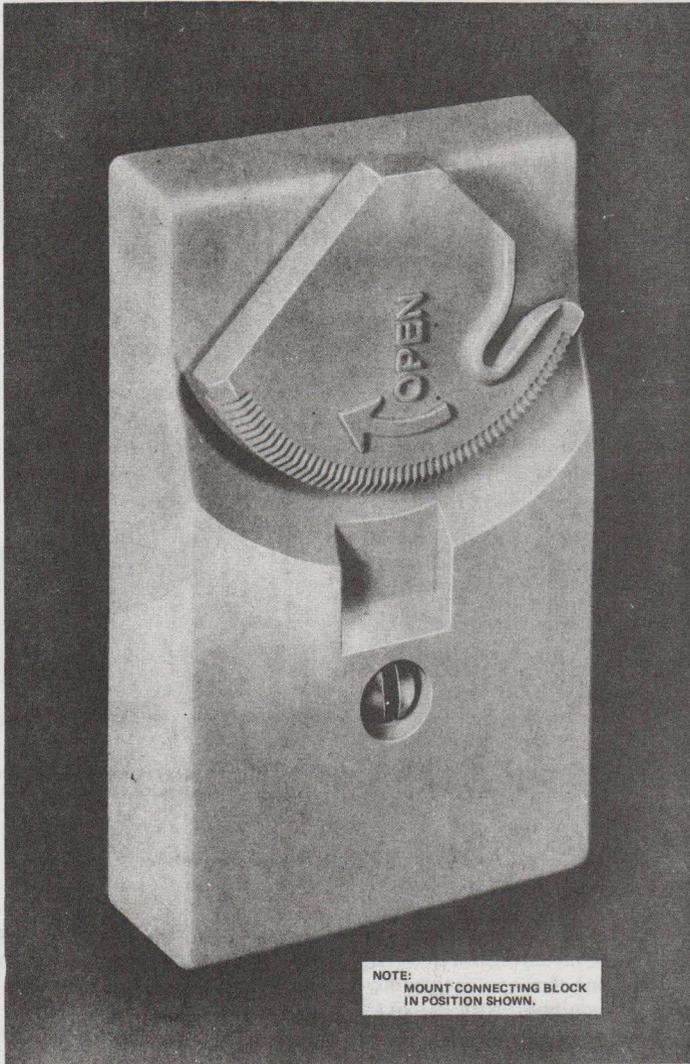

Fig. 5—625S or 625T Connecting Block
- Block, Connecting, 625S (Fig. 5)
- Block, Connecting, 625T (Fig. 5)
2.08 The **625S** connecting block (Fig. 5) is similar to the 625A except it has a customer-operable spring-loaded cover which protects the interior telephone line contact springs from contamination. It is intended for use in areas subject to high humidity and condensation or locations exposed to dripping, washing, or foreign matter. It contains a 42A block.
2.09 The **625T** connecting block (Fig. 5) is the same as the 625S except it does not contain a 42A connecting block. It is used to convert existing 42A or 625-type connecting blocks where extra protection is needed.
3.07 625S Connecting Block: Mount the 42A connecting block on the wall (preferred) or baseboard so that the 625S connecting block cover is positioned as shown in Fig. 5. When mounting on masonry walls, a backboard should always be used.
3.09 **625T Connecting Block:** This connecting block is the same as the 625S except it does not contain a 42A connecting block. This connecting block is to be positioned over existing 42A connecting blocks as shown in Fig. 5.